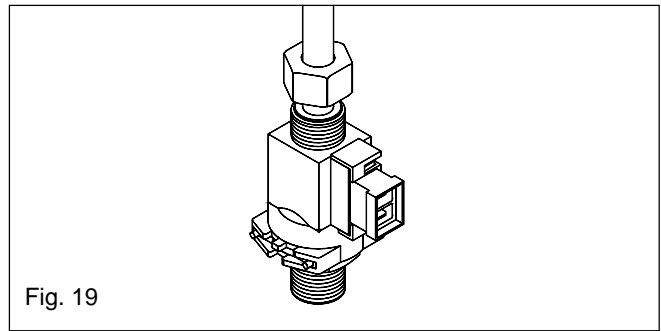

Fig. 19
6.10 DOMESTIC WATER FLOW SWITCH fig. 19